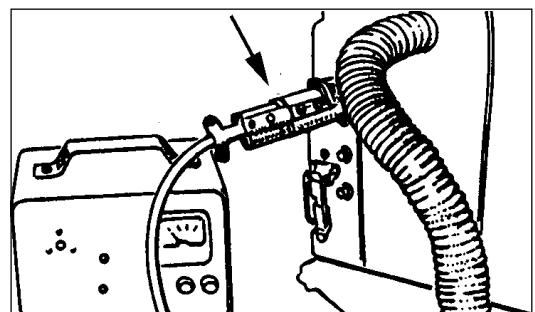

Figure 31
3. Connect the DC connector on the charger to the battery pack connector. See figure 31.